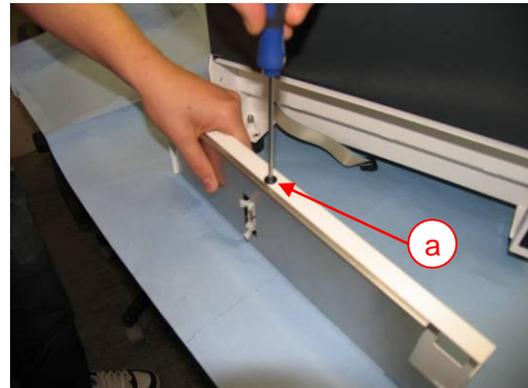

Fig. 18 – open the operating unit
- Loosen the top housing cover screw (Fig. 18 a).
- Replace the top housing cover and secure it with the screw (fig 18 a)